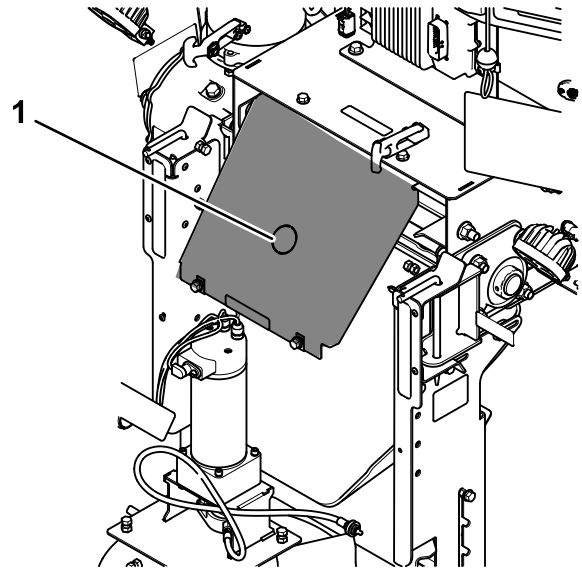

**Figure 12**
- For VBX pintle chain spreaders, mount the bracket to the top of the pintle chain assembly as shown in Figure 12.